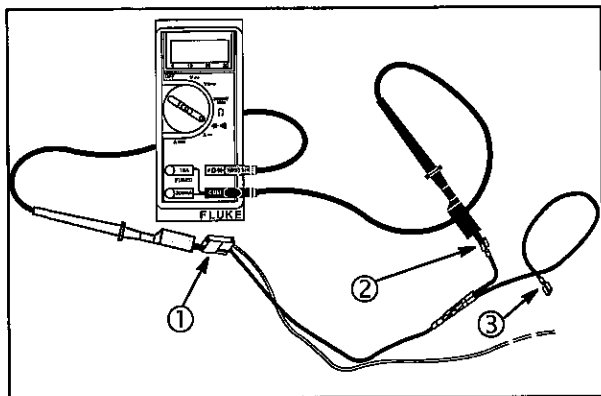

Fig. 46
4. Insert RED test lead clip into connector (1) (BLACK wire), **Fig. 46**. Leave attached for remainder of test.
5. Touch BLACK test lead probe to terminal (2).
6. Repeat test for terminal (3). Results must be the same.